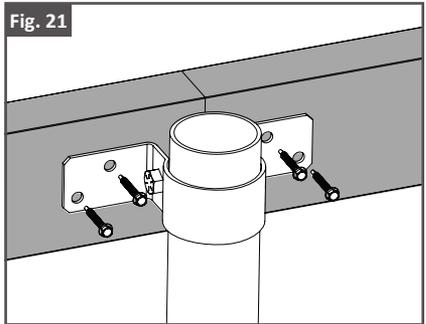

Fig. 22
3. For corner installation, the face of the Rails with Z Channel in the new run should be flush with the edge of the Rails with Z Channel in the previous run. The post bracket flap can be unfolded to fit the shape of the corner. As shown in Fig. 22 & 23.